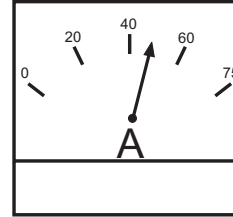

Figure 39. Ammeter (Load)
19. Observe the generator's ammeter (Figure 39) and verify that it reads the anticipated amount of current with respect to the load. Remember the ammeter will only display a current reading if the load is in use.